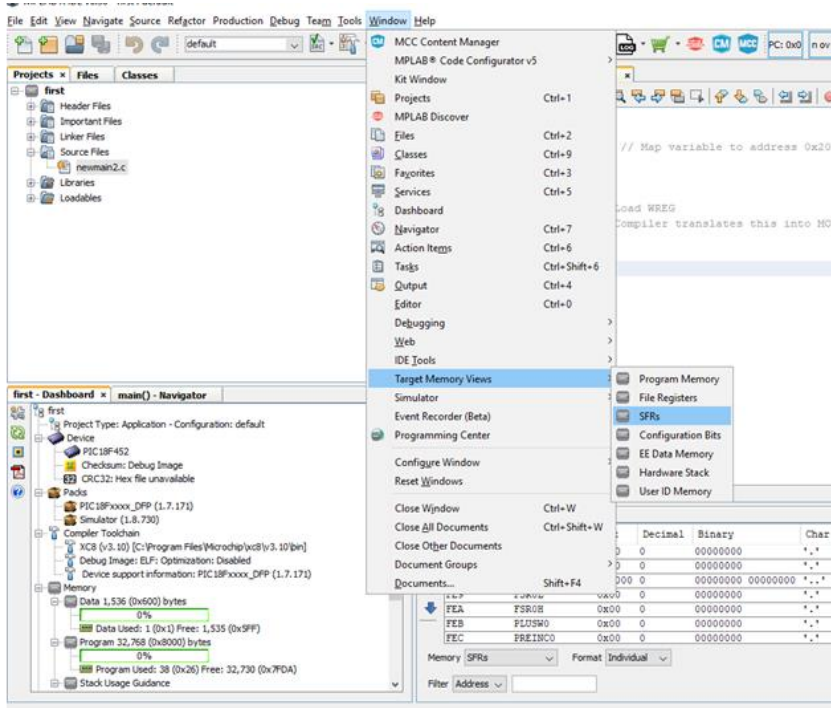

Fig 4.32 SFR Window Selection
28. To the SFR registers and content, select Windows --> Target Memory --> SFR's as shown in Fig 4.32.